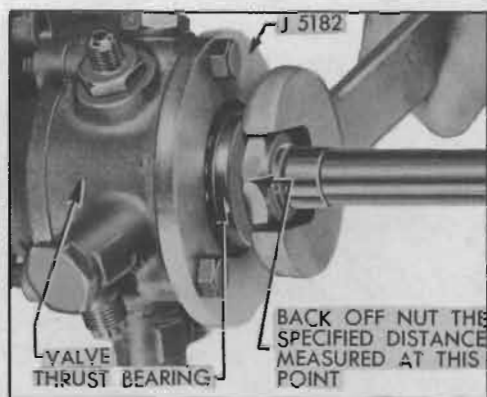

Figure 7-31—Adjusting Worm Thrust Bearings
7. Support steering gear in a vertical position, move valve housing around to make sure that thrust bearing balls are seated in races, then align the large (RT) union with left edge of cylinder flange on gear housing. Install Valve Cover Adapter J 5182 with valve cover bolts (fig. 7-31), center the valve spool around worm shaft and tighten bolts securely.
9. Install steering wheel and turn counterclockwise until centering springs are fully compressed, due to pressure of ball nut against the end cover. Hold wheel and tighten worm bearing nut just enough to seat the thrust bearings against valve spool, then back off nut $\frac{1}{16}$ " to $\frac{3}{32}$ " measured at corner of nut hex. See figure 7-31.